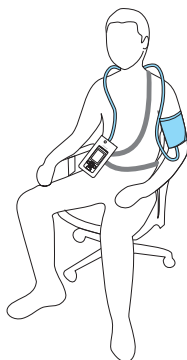
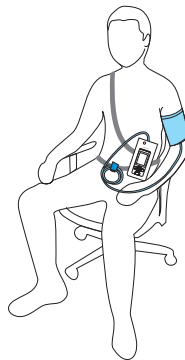

Figure 3-6 Wearing Pouch and Placing Hose around Neck
Figure 3-7 Wearing Pouch and Securing Hose on Waist
3. Secure the pouch on the patient with ties around the patient's shoulder and under the arm, as shown in Figure 3-6 and Figure 3-7.
4. Apply the cuff and hose. You can place the hose around neck (as shown in Figure 3-6) or secure the hose on the waist tie (as shown in Figure 3-7).